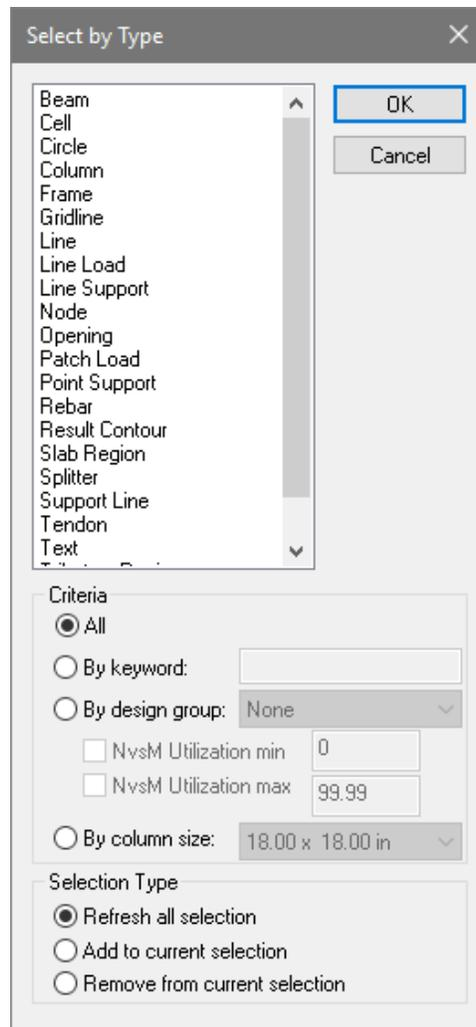

Figure 10-42
- Go to *Home* → *Selection Tools* and click on the *Select by Type*  icon. This will open the *Select by Type* dialog window as shown in **FIGURE 10-42**.